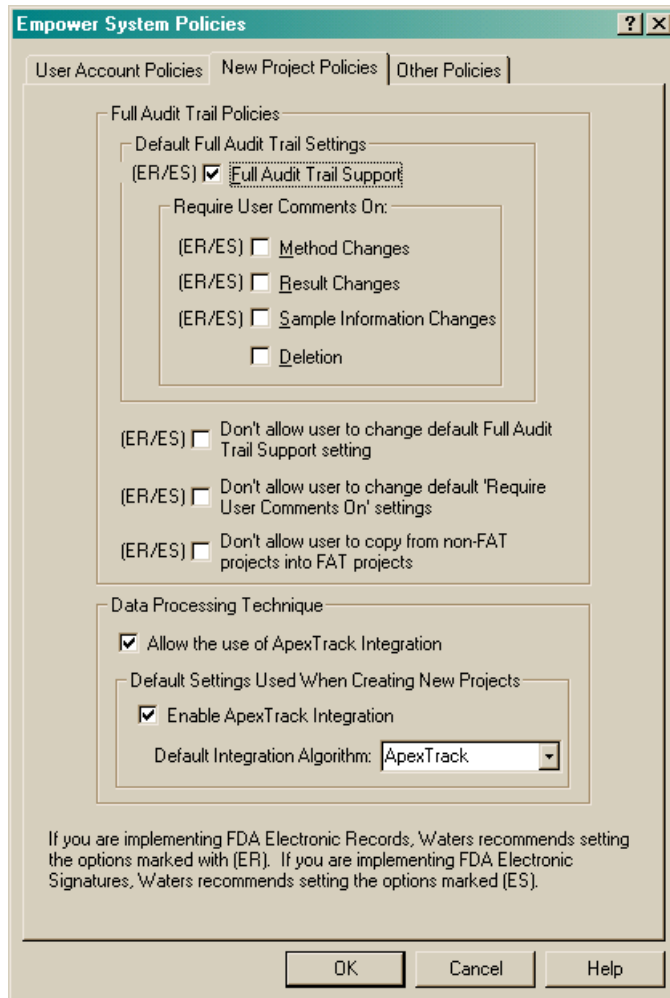

Figure C-2 New Project Policies Tab
3. Click the **New Project Policies** tab. The New Project Policies tab appears (Figure C-2).